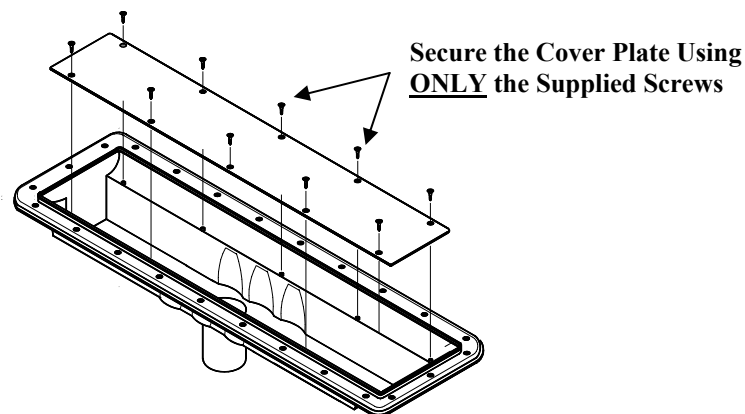

Figure 7
9. Install the cover plate to the Channel Drain using the Torx Safety Screws (see Figure 7).